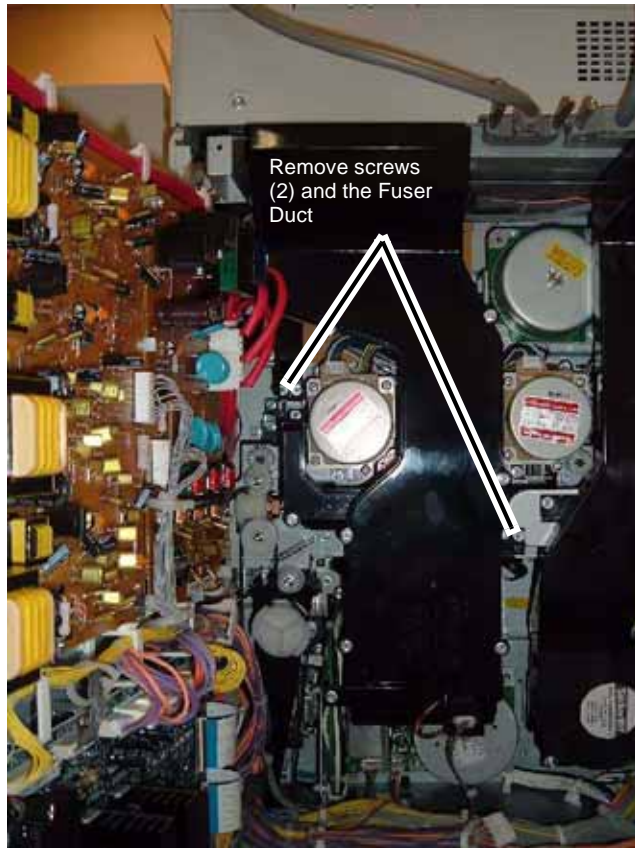

Figure 1 Removing the Fuser Duct
2. Remove the Fuser Duct (Figure 1).